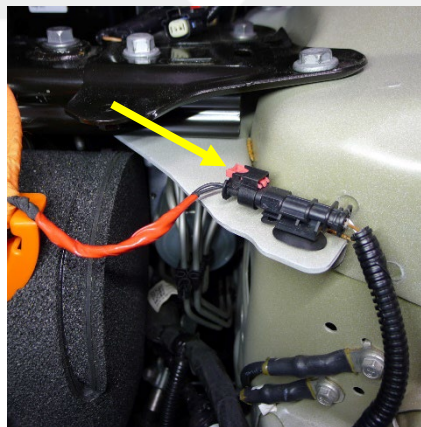

Figure 41
35. Connect the A/C compressor HVIL connector to the electrical harness at the LH shock tower, and then push the red tab in to lock the connector (Figure 41).